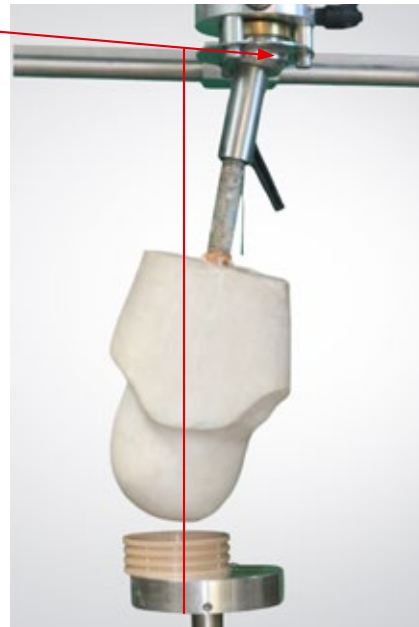

Fig 8
- The ball and socket allows correct positioning of the positive model even when the pipe is wrongly placed (Fig 8).